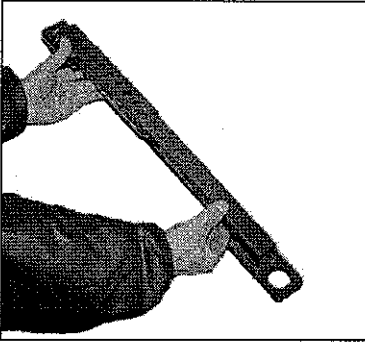

figure 10
- a. Slide the tube with 1 hole into the other tube (figure 10).